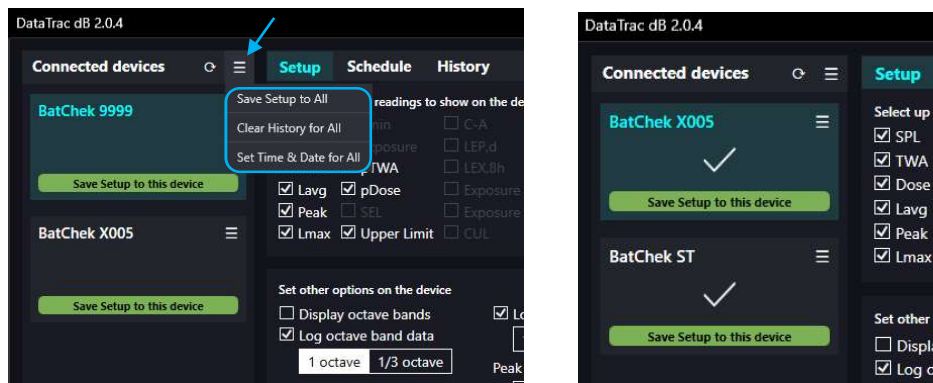

Figure 4. Connected devices Menu Options and Application
When multiple devices are connected in the 5-unit charging dock, use the Connected devices menu  to apply the following actions under any operation (Setup, Schedule, or History) to all connected devices at one time (see Figure 4):
2. Click on the Connected devices menu icon and select the desired option (Figure 4 shows the menu options for Setup). A check mark will appear briefly under each device name to indicate that the selected option has been applied to it.
7. If applicable, set **CUL Threshold** and **CUL Interval** values. CUL (Continuous Upper Limit) equals the number of times the set threshold was exceeded continuously for the set interval. Any continuous event lasting for the set interval counts as one, so using the values set in Figure 4 (117 dB and 30 sec) as an example, CUL = 1 for an event continuously lasting for more than 30 seconds but less than 59 seconds, 2 for an event lasting for 60 to 89 seconds, and so on. Each subsequent continuous event lasting for the set interval is added to the overall count.